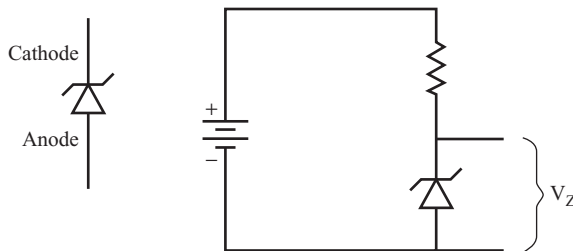

FIGURE 2.26
**24** Diodes can be manufactured so that breakdown occurs at lower and more precise voltages than those just discussed. These types of diodes are called *zener diodes*, so named because they exhibit the “Zener effect”—a particular form of voltage breakdown. At the *zener voltage*, a small current flows through the zener diode. This current must be maintained to keep the diode at the *zener point*. In most cases, a few milliamperes are all that is required. Figure 2.26 shows the zener diode symbol and a simple circuit.